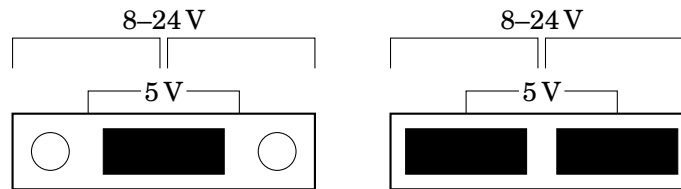

Figure 4.4: Input Voltage Select Jumpers for +5 V (left) and +8–24 V (right)
4. Configure the input voltage jumper J4. If the board’s logic circuits will be provided with a regulated +5 V DC supply to J6, place a single jumper across the middle pins of J4 (pins 2–3). Otherwise, for input supply voltages from +8 V to +24 V DC, place two jumpers on pins 1–2 and 3–4 of J4, as shown in Figure 4.4. In the example being described here, we are getting +5 V so place a jumper across pins 2–3.